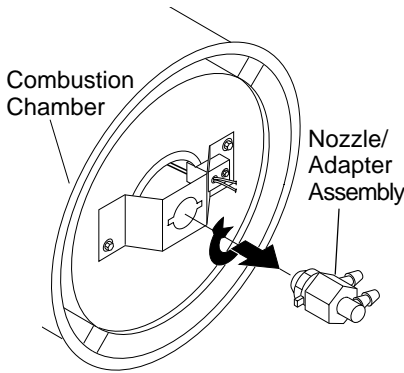

Figure 13 - Removing Nozzle/Adapter Assembly
4. Turn nozzle assembly 1/4 turn to left and pull toward motor to remove (see Figure 13).